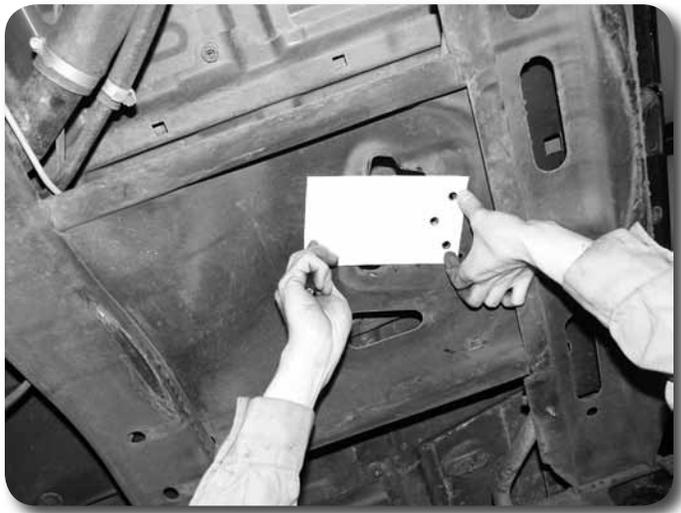

Figure 34
83. Remove the bracket and align the paper template with the holes. Mark the 2 additional holes to be drilled on the opposite side. Drill to 3/8". **Figure 34**